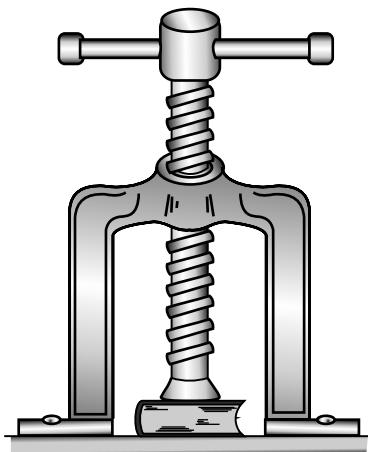

Fig. 8.24
The screw press, shown in Fig. 8.24, is used in book binding. The screw has a mean radius of 10 mm and its pitch is 5 mm. The static coefficient of friction between the threads is 0.18. If a clamping force of 1000 N is applied to the book, determine (1) The torque that was applied to the handle of the press. (2) The torque required to loosen the press.